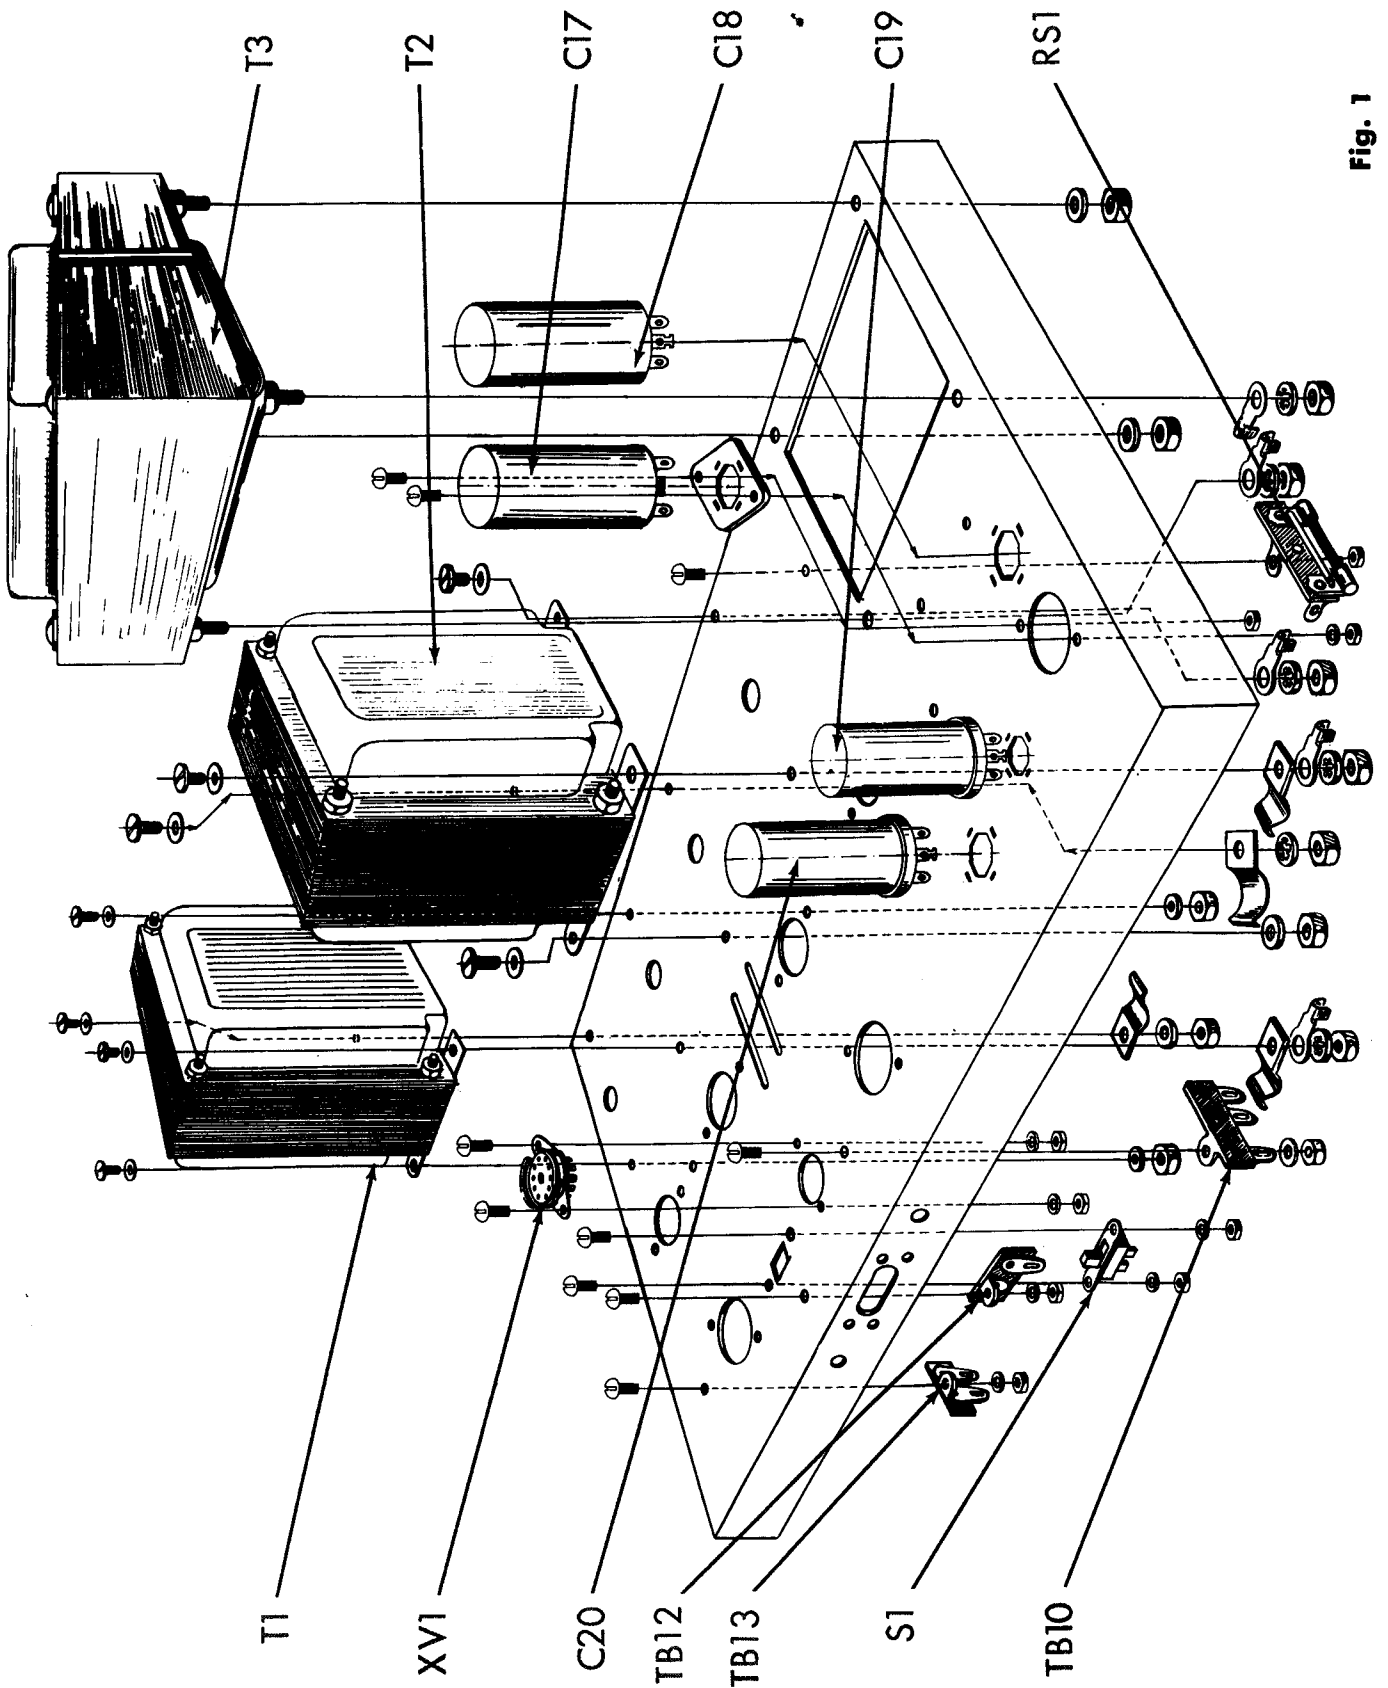
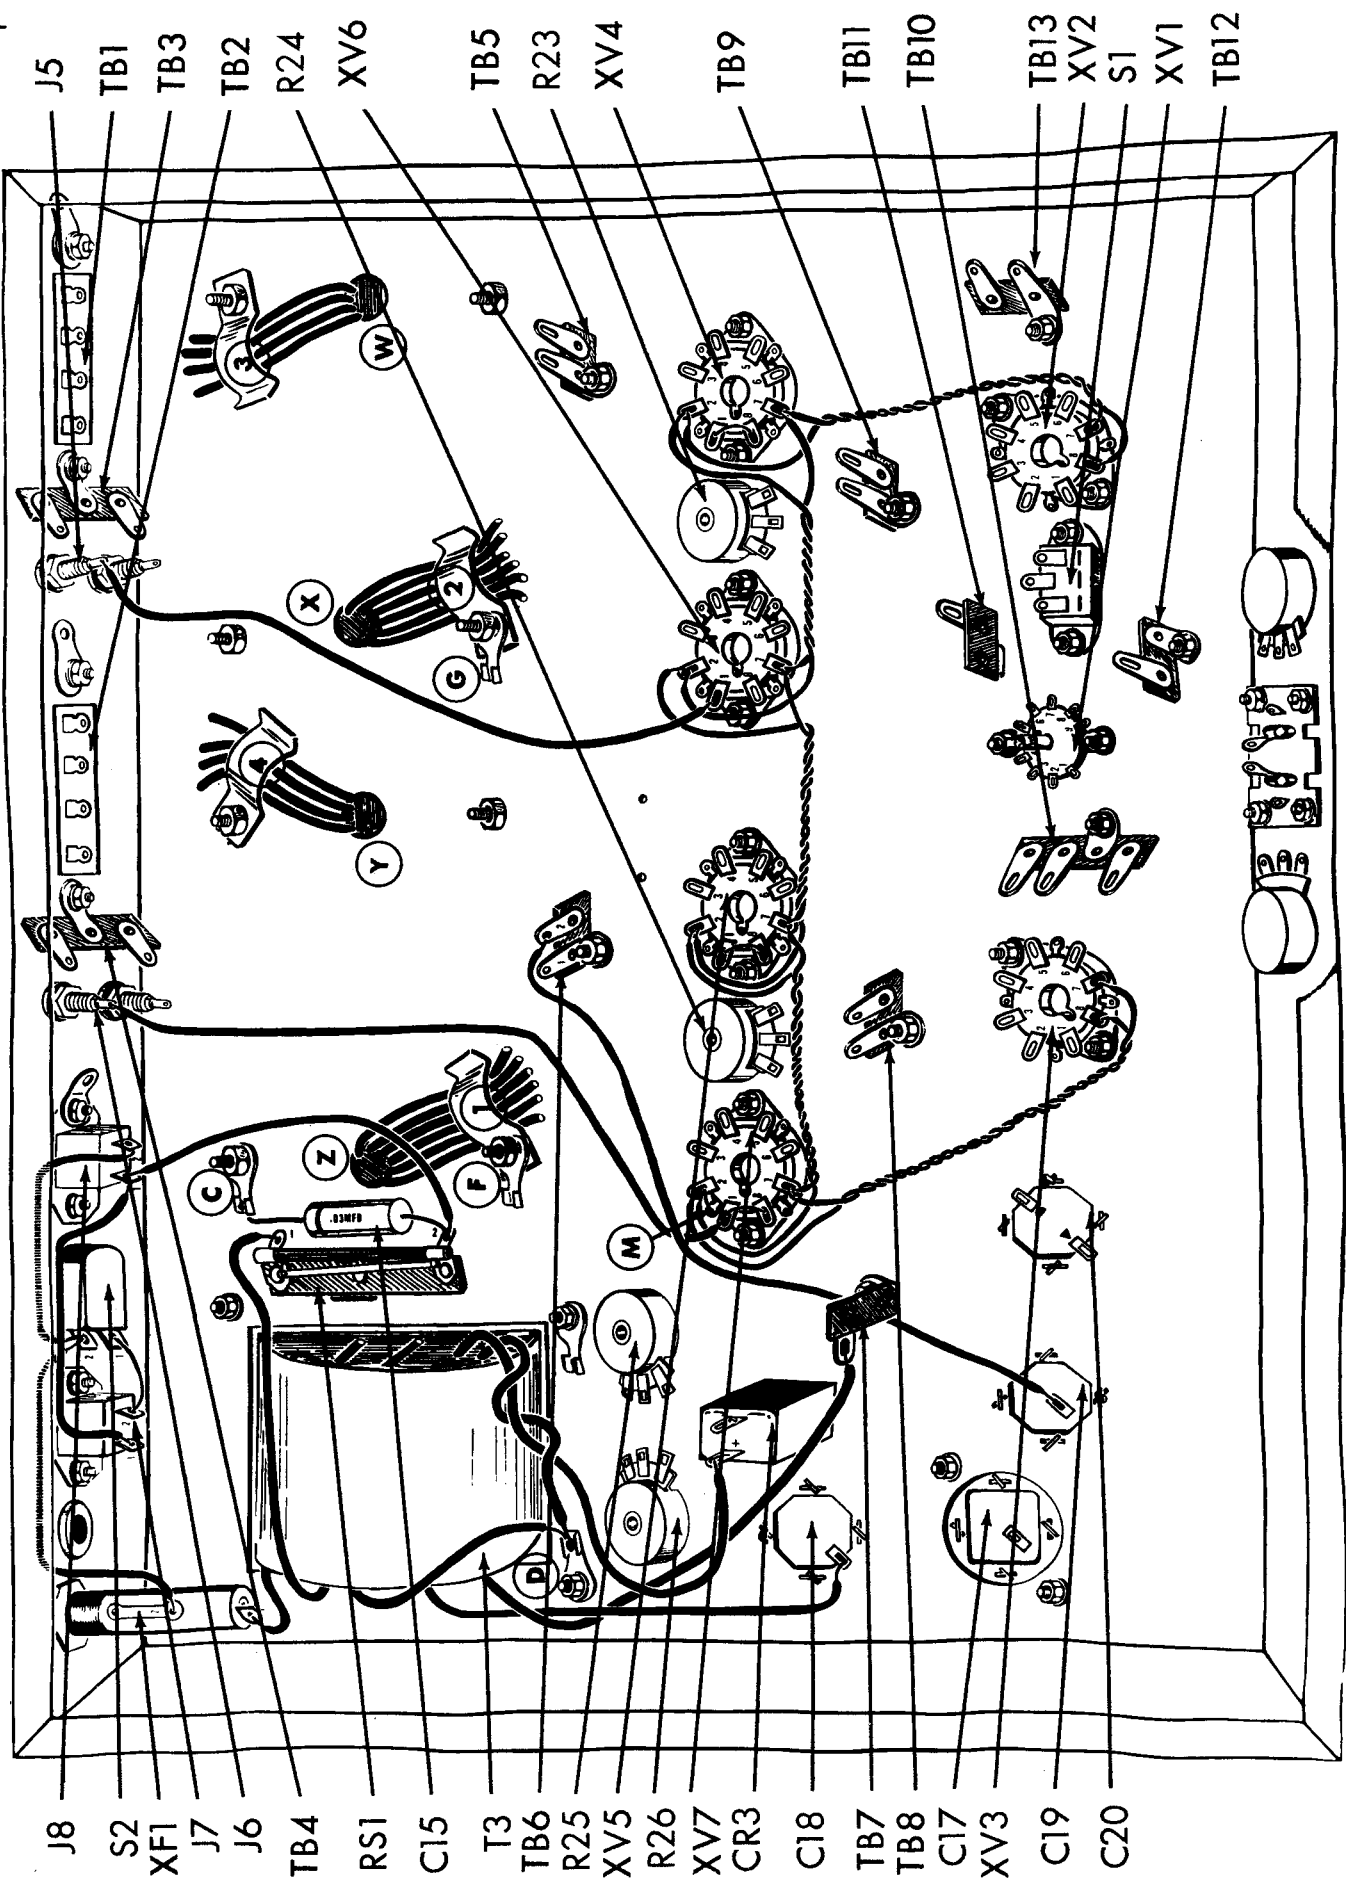

Fig. 1
Fig. 3
with ground terminal strip, TB13, as shown. Orient these terminal strips as shown in figure 3. Use one #6-32 screw, one #6 lockwasher and one #6 hex nut to secure each terminal strip to the chassis.
- () 1. Fig. 1. On power transformer T3, cut both green leads to 6", one red lead to 6", the other red lead to 7", the white lead to 3", one black lead to 2", the other black lead to 4", one blue lead to 4" and the second blue lead to 6 1/2". On each of these leads strip the insulation back 1/4". Mount the transformer as shown with the green leads toward the center of the chassis and the black leads close to the side of the chassis. Use four #8 lockwashers and four #8-32 hex nuts to secure the transformer to the chassis. Under each of two of the lockwashers, mount a #8 ground lug, as shown in Figure 3.
- () 2. Fig. 1. On both output transformers T1 and T2, cut the black lead to 4", the white lead to 4 1/2", the green lead to 5" and the yellow lead to 5 1/2". Cut the blue and blue-yel. leads to 4 1/2" and the brown and brown-yel. to 5 1/2" and the red and red-yellow leads to 6". Strip the insulation back 1/4" from the ends of each of the leads. Mount transformer T2 with black, brown, green, and yellow leads going through hole "Y" and all the remaining leads going through hole "Z". Secure the transformer to the chassis using four #10-32 screws and four #10 flat washers from above the chassis and four #10 lockwashers and four #10-32 hex nuts from below the chassis. Noting the orientation in figure 3, under one of the lockwashers used in the mounting of T2, place cable clamp #1 and the #10 ground lug "F". Run the leads from hole "Z" under this cable clamp #1. Under a second lockwasher used in the mounting of T2, place cable clamp #4. Run the leads from hole "Y" under this cable clamp #4. Mount ground lug "C" under one of the remaining lockwashers used for the mounting of T2 as indicated in the figure.
- Mount transformer T1 with the black, white, green and yellow leads going through hole "W" and the remaining leads going through hole "X". Secure the transformer to the chassis using four #10-32 screws and four #10 flat washers from above the chassis and four #10 lockwashers and four #10-32 hex nuts from below the chassis. Noting the orientation in figure 3, under one of the lockwashers used in the mounting of T1, place cable clamp #2 and the #10 ground lug "G". Run the leads from hole "X" under this cable clamp #2. Under a second lockwasher used in the mounting of T3, place cable clamp #3. Run the leads from hole "W" under this cable clamp #3.
- () 3. Fig. 1. Mount the single pole double throw slide switch S1, from below the chassis, as shown. See figure #3 for orientation. Use two #6-32 screws, two #6 lockwashers and two #6-32 hex nuts.
- () 4. Fig. 1. From below the chassis, mount the 3 post 2 right terminal strip, TB10; the one post left terminal strip, TB12; and the one post left with ground terminal strip, TB13, as shown. Orient these terminal strips as shown in figure 3. Use one #6-32 screw, one #6 lockwasher and one #6 hex nut to secure each terminal strip to the chassis.
- () 5. Fig. 1. Mount the 9 pin miniature socket with shield support XV1, from above the chassis, as shown. Use two #4-40 screws, two #4 lockwashers and two #4-40 hex nuts. Note the orientation of this socket in figure #3.
- () 6. Fig. 1. Mount the bakelite capacitor mounting plate for C17 from above the chassis, as shown. Use two #6-32 screws, two #6 lockwashers and two #6-32 hex nuts.
- () 7. Fig. 1. Into the slots in the bakelite capacitor mounting plate (mounted in step #6) insert the tabs from the 300ufd, 300V electrolytic can capacitor, C17. Note the orientation of this capacitor in figure #3. Twist the tabs somewhat less than a quarter turn. Do not twist the tabs excessively or they will shear off. Take precautions so that the tabs used to secure the capacitor to the bakelite will not short against the surrounding metal chassis.
- () 8. Fig. 1. Mount the 300mf 300 volt electrolytic capacitor C18, as shown. Note the orientation in Figure #3. Insert the capacitor mounting tabs into the slots in the chassis and twist the tabs a little less than a quarter turn. Do not twist the tabs excessively or they will shear off. Solder the capacitor tab without a hole to the chassis at the slot in the chassis.
- () 9. Fig. 1. Mount the 80mf 500 volt electrolytic capacitor C19, as shown. Note the orientation in figure #3. Insert the capacitor mounting tabs into the slots in the chassis and twist the tabs a little less than a quarter turn. Do not twist the tabs excessively or they will shear off. Solder the capacitor tab without a hole, to the chassis at the slot in the chassis.
- () 10. Fig. 1. Mount the 40-20mfd/500 volt electrolytic capacitor C20, as shown. Note the orientation of the capacitor (half-moon and triangle) in figure #3. Insert the capacitor mounting tabs into the slots in the chassis and twist the tabs a little less than a quarter turn. Do not twist the tabs excessively or they will shear off. Solder the capacitor tabs without a hole to the chassis at the slot in the chassis.
- () 11. Fig. 1. Mount the surgistor RS-1, as shown. Use one #6-32 screw, one #6 lockwasher and one #6 hex nut to secure this component to the chassis. Note the orientation in figure #3.
- () 1. Fig. 3. Connect an 8 1/2" piece of red wire from C19 (C) to TB6-2 (C). Run this lead along the chassis as shown.
- () 2. Fig. 3. From power transformer, T3, connect the white lead to ground lug "D" (C), the short black lead to XF1-1 (C) and the longer black lead to RS1-1 (C). Twist the two red leads together as shown. Connect one red lead to C18 (C) and the second red lead to TB7 (C). Twist the two blue leads together. Connect one blue lead to ground lug "D" (S2) and the second blue lead to CR3-1 (S1). Do not use excessive heat when soldering to CR3.
- () 3. Fig. 3. Connect a 4 1/2" piece of grey wire from XF1-2 (S1) to S2-2 (C).
- () 4. Fig. 3. Connect a 4" piece of gray wire from S2-2 (S2) to J8-2 (S1).
- () 5. Fig. 3. Connect a 1 1/4" piece of bare wire from J7-2 (C) to S2-1 (S1).
- () 6. Fig. 3. Connect a 5" piece of gray wire from J7-1 (C) to J8-1 (C).
- () 7. Fig. 3. Connect a 4" piece of grey wire from J8-1 (S2) to RS1-2 (C).
- () 8. Fig. 3. Cut both leads on a .03mfd (orange, black, orange, black, blue) molded capacitor C15 to 1". Connect one lead to RS1-2 (S2) and the second lead to ground lug "C" (S1).
- () 9. Fig. 3. Connect one end of a six inch piece of yellow wire to XV4-2 (C) and one end of a 5" piece of brown wire to XV4-7 (C). Twist the two leads together and run them along the chassis as shown. Connect the other end of the yellow wire to XV2-7 (S1) and the other end of the brown wire to XV2-8 (S1).
- () 10. Fig. 3. Connect one end of a 7" piece of yellow wire to XV4-2 (S2) and one end of a 4" piece of brown wire to XV4-7 (S2). Twist the two leads together and run them along the chassis as shown. Connect the remaining end of the yellow wire to XV6-2 (C) and the other end of the brown wire to XV6-7 (C).
- () 11. Fig. 3. Connect one side of a 7" piece of yellow wire to XV6-2 (S2) and one side of a 4" piece of brown wire to XV6-7 (S2). Twist the leads together and run them along the chassis as shown. Connect the other end of the yellow wire to XV5-2 (C) and the other end of the brown wire to XV5-7 (C).
- () 12. Fig. 3. Connect one end of a 7" piece of yellow wire to XV5-2 (S2) and one end of a 4" piece of brown wire to XV5-7 (S2). Twist the two leads together and run them along the chassis as shown. Connect the other end of the yellow wire to XV7-2 (C) and the other end of the brown wire to XV7-7 (C).
- () 13. Fig. 3. Connect one end of an 8" piece of yellow wire to XV7-2 (C) and one end of a 7" piece of brown wire to XV7-7 (C). Twist the two leads together and run them along the chassis as shown. Connect the other end of the brown wire to XV3-8 (S1) and the other end of the yellow wire to XV3-7 (S1).
- () 14. Fig. 3. Connect a 3/4" piece of bare wire from XV7-2 (C) to ground lug "M" (S1) at XV7.
- () 15. Fig. 3. Connect a 3/4" piece of bare wire from XV7-1 (C) to XV7-8 (S1).
- () 16. Fig. 3. Connect a 3/4" piece of bare wire from XV5-1 (C) to XV5-8 (S1).
- () 17. Fig. 3. Connect a 3/4" piece of bare wire from XV6-1 (C) to XV6-8 (S1).